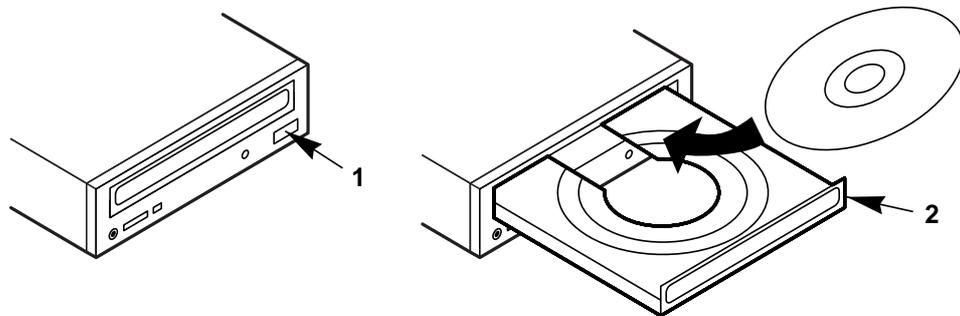

Figure 2-3 Insert bootable configuration CD
6. If the server doesn't come on when you plug it into the AC outlet, press the system power push-button on/off switch (Figure 2-3) on the front panel.